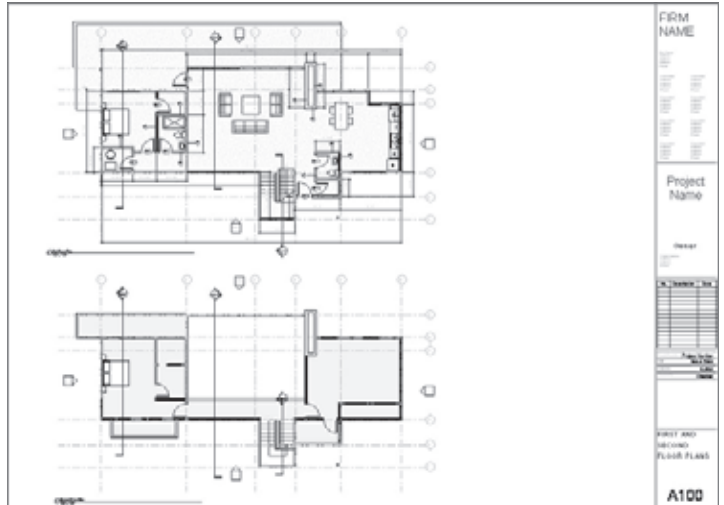

Figure 11.5
3. Use the View Control bar to select **Show Crop Region** (  ). The light bulb in the icon turns yellow, indicating that the crop region is on. The view will now have a box surrounding the extents of the view with blue grips you can use to bring the extents of the view within the boundaries of the sheet. Once this is done, you can then right-click the view again and choose **Deactivate View** from the context menu. Note that while the crop region is still visible, it will not show when printed. You can then place the views on sheets in a more organized fashion similar to Figure 11.5.